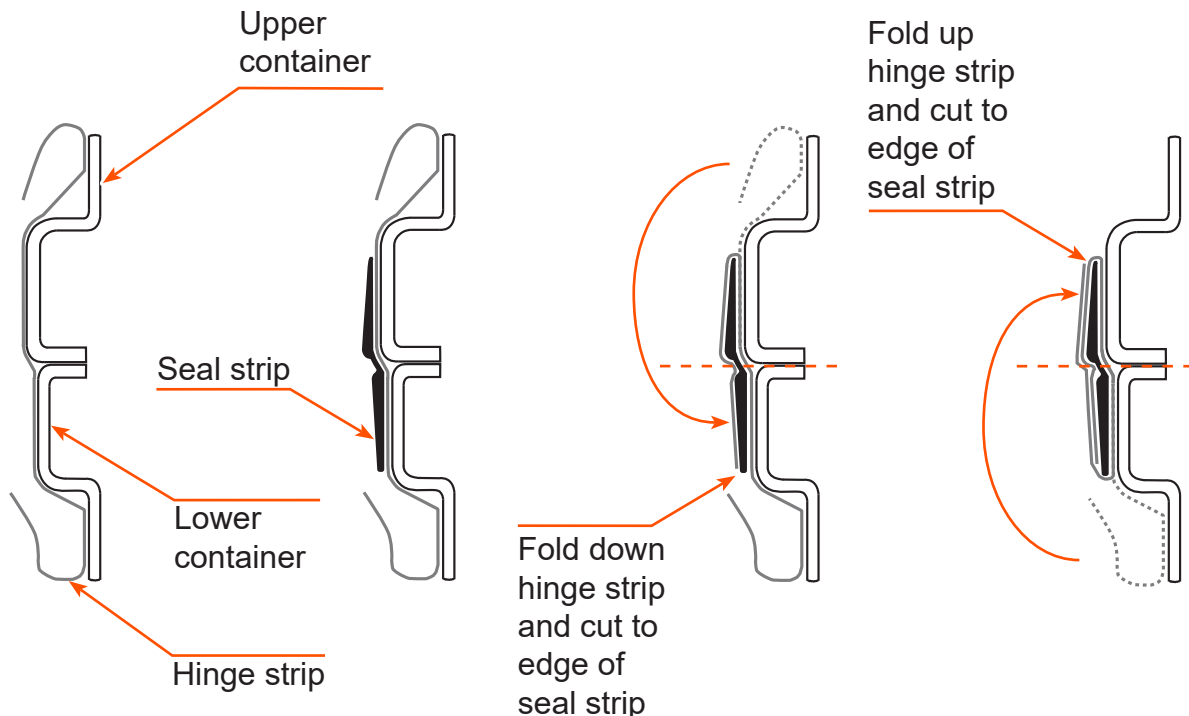

FIGURE 3
- (1) Use 100 – 200 grade abrasive paper to make the seal strip rough where it overlaps the hinge strip.
- (2) Use a clean, lint-free cloth and MEK to clean the abraded surface.
- (3) Use a paint brush to apply a layer of glue to the abraded surface of the seal strip and the mating surface of the hinge strip and allow to dry.
- (4) Do step 6.K.(3) again.
- (5) Use a paint brush to apply a layer of glue and allow it to become tacky.
- (6) Fold the upper section of the hinge strip down to attach it to the seal strip. Refer to **Figure 3**.
- (7) Use scissors to cut the upper section of the hinge strip at the lower edge of the seal strip and use a roller to apply pressure to the hinge strip.
- (8) Do steps 6 K (3) thru 6 K (5) to apply glue to the mating surfaces of the hinge strip.
- (9) Fold the lower section of the hinge strip up to attach it to the recently glued section of the hinge strip. Refer to **Figure 3**.
- (10) Use scissors to cut the lower section of the hinge strip at the upper edge of the seal strip.
- (11) Use a roller to apply pressure to the hinge strip.
- (12) Let the glue dry for a minimum of 12 hours before you remove the ratchet straps.
- (13) Use a clean paint brush to apply a layer of transparent lacquer to the seal strip and let it dry.